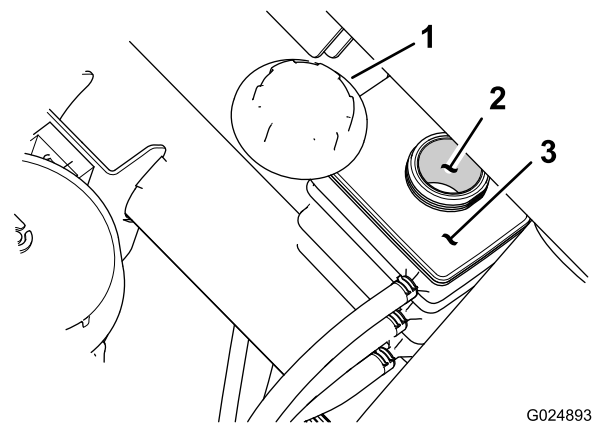

Figure 14
- Check the coolant level at the reserve tank (Figure 14). The coolant should be up to the bottom of the stand pipe in the filler neck.
- If the coolant is low, remove the reserve tank cap (Figure 14) and add a 50/50 mixture of water and permanent ethylene glycol antifreeze. **Do not overfill.**
- Install the reserve tank cap (Figure 14).